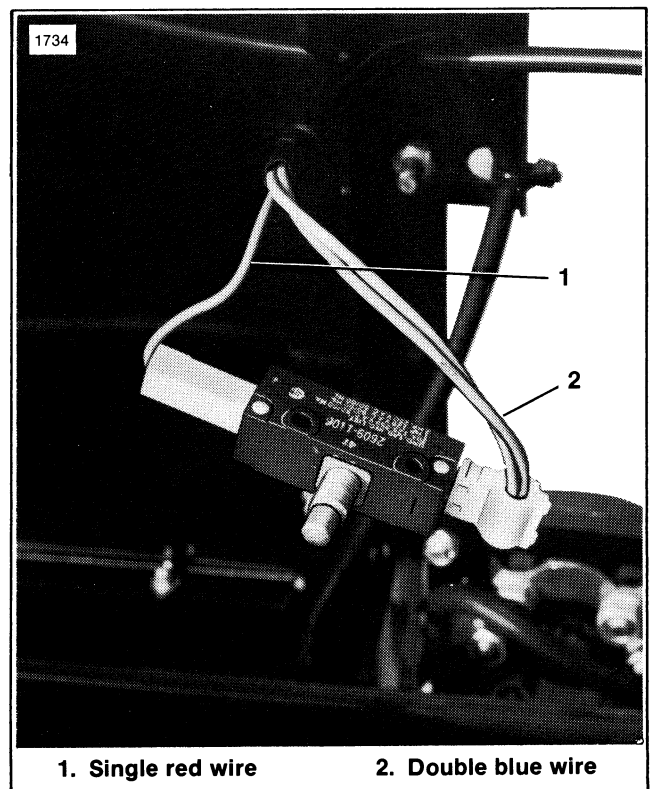

Figure 8-9. Micro-Switch
4. See Figure 8-9. Disconnect single red wire (1) and double blue wire (2).
1. See Figure 8-9. Reconnect single red wire (1), double blue wire (2) and mount switch using speed nut (5, Figure 8-7).
2. Install switch plunger boot (4) to switch, spin on cup (2) and locknut (1).